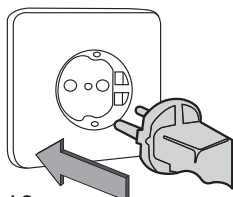

Fig.16
- > Branchez la prise [Fig. 16]. Alimentation: 220V-240V ~ 50Hz.